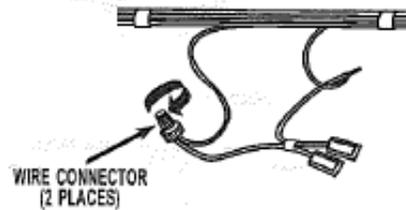

FIGURE 7
10. Take the jumper wire included with kit and connect them to the matching colored wires from the harness, then twist on the UL listed wire nuts supplied with kit. See figure 7.